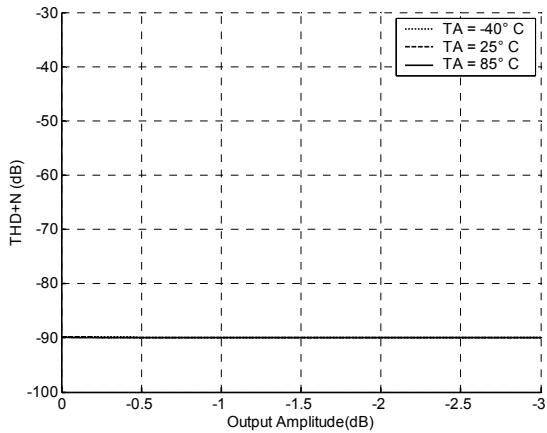
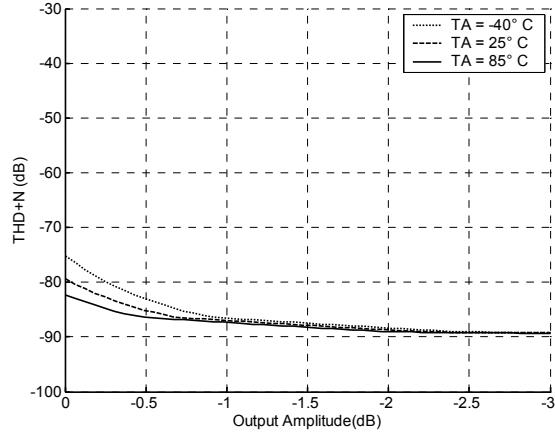
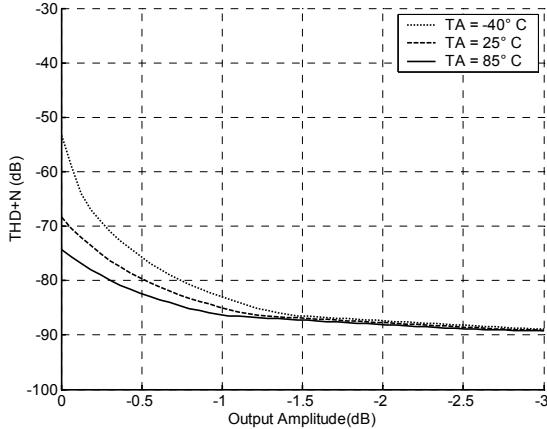

Figure 3. THD+N vs Output Amplitude for VA = 5.0 V
Figure 4. THD+N vs Output Amplitude for VA = 3.3 V
Figure 5. THD+N vs Output Amplitude for VA = 3.14 V
- 3. One LSB of triangular PDF dither is added to data. See Figure 3, Figure 4, and Figure 5 for details on THD+N performance.
Figures 3 through 5 show typical THD+N performance for CS4349 devices that exhibit the maximum full scale output voltages as specified in the DAC Analog Characteristics tables (see page 9 and 10). With decreasing VA, THD+N performance is increasingly affected by the full scale output voltage and temperature, with higher full scale output voltage and lower temperatures corresponding to lower THD+N performance.